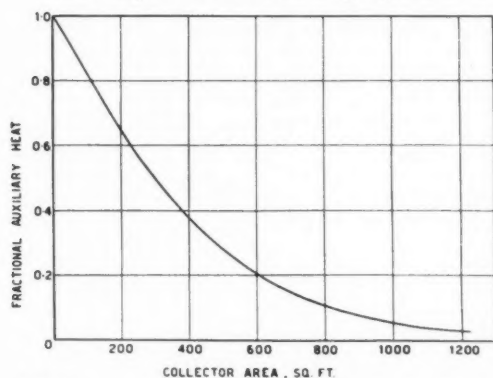

Fig. 2 Percentage of heating is not directly proportional to collector area because of undependability of sunshine and variability of required heat
pattern similar to the Boston area, storage for three days is judged to be the most that could be considered economical. Heat capacity storage in water takes the space equivalent of an average size coal bin, while gravel storage requires several times that volume. Salt storage, on the other hand, requires only about one-third to one-fifth the space required by water but presents other difficulties. The problems of supercooling, stratification, incongruent phases, and the necessity of stirring the salt solutions have tended to keep studies of heat of fusion materials in the laboratory for most, though not all, investigators. It should be realized also that even a manifold increase in storage capacity will not entirely eliminate the need for auxiliary heating in many areas. (See Fig. 2 which assumes very large storage capacity.)
Once collector output has been determined, it becomes possible to design a heating system around this basic heat collection mechanism. Weather bureau data on amount and distribution of sunshine during the heating season are essential to compute accurately the size of the collector and associated storage. Utilizing these data, it is possible to subject them to methods of analysis which have been developed (3) and arrive at an amount of useful heat which will be collected in an average year. When compared to conventional fuels, this heat will have certain monetary values, depending on the type of fuel and the geographic location. When the area of the collector is divided by the annual value of heat collected, the earning power of each square foot of collector is determined. Since the amount of heat required to heat the space for which the system is being designed is a finite amount, there is a total annual fuel bill to compare to the annual charges on any substitute system. Because of the undependability of sunshine and the variability of required heat with time of year, the percentage of heating is not directly proportional to the collector area; and, in fact, if the design criteria of full comfort conditions is to be maintained at all times, then the amount of collector varies according to a curve (see Fig. 2). The significance of this curve is apparent from observation. Although 50 percent of the annual heating load can be handled by a collector of  $x$  sq ft and doubling the area increases the heating to 80 percent, it should be noted that even an area of  $4x$  sq ft does not handle 100 percent of the load. From this it can be seen that the use factor on a very large collector must be very small since the full output is used only a very small percent of the time.